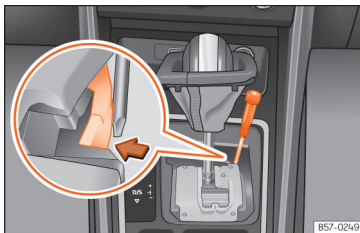

Fig. 92 Selector lever: manual release from position P.
- Using the flat part of a screwdriver, press the yellow tab sideways and keep it pressed down  **Fig. 92**.